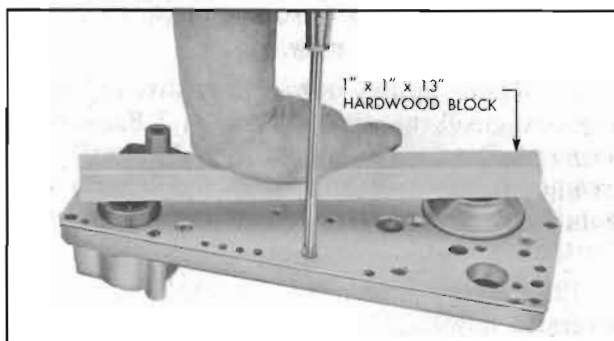

Figure 5-69—Removing Servo Body Spacer Plate
low servo then place a 1"x1"x13" wooden block across the low and reverse servo spring seats. See Figure 5-69.
4. Install a new spacer plate gasket and place spacer plate in position over spring seats. Place a 1"x1"x13" wooden block across spring seats to compress the springs while installing the spacer plate screws (fig. 5-69). Tighten screws